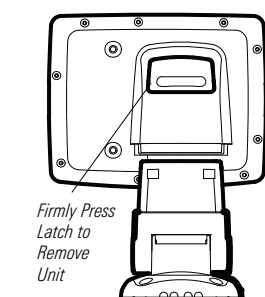

Figure 21
5. Slide the control head onto the mounting bracket until it is fully seated. To remove the unit, grasp the unit with both hands, then firmly press the latch on the rear of the unit and lift (Figure 21).